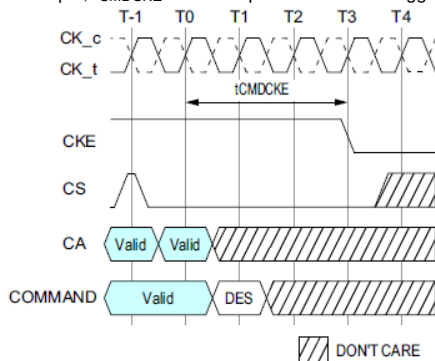

Figure 25. t_{CMDCKE} Timing
- The DQS input mask for timing with respect to CK is shown in Figure 25. The "total" mask (t_{WLIVW}) defines the time the input signal must not encroach in order for the DQS input to be successfully captured by CK with a BER of lower than tbd. The mask is a receiver property and it is not the valid data-eye.